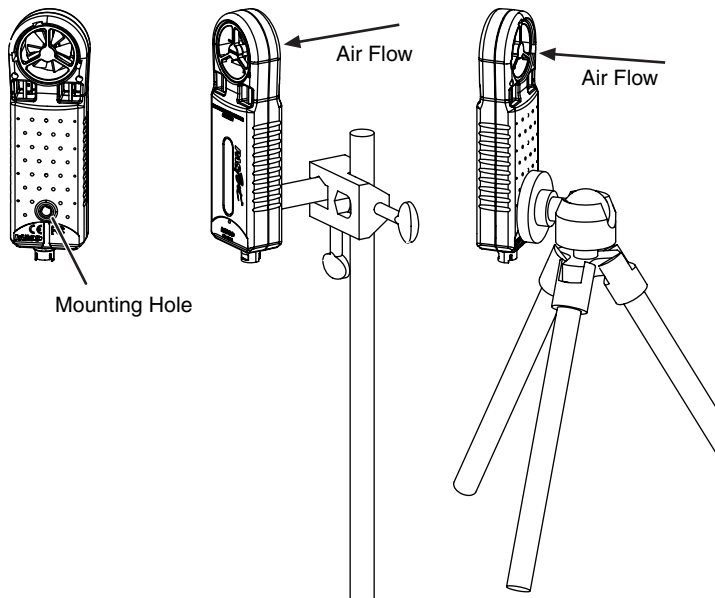

Figure 1: Mounting options and air flow direction
- Optional: Screw a 1/4-20 threaded rod (such as CI-9874) or tripod into the mounting hole on the back of the sensor and mount it as illustrated (Figure 1).
- Hold (or mount) the sensor vertically so that air flows into the rear of the windmill (Figure 1).